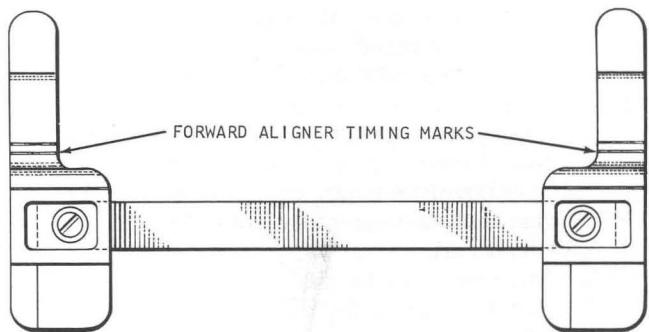

Figure 4-7. Gage 608183 Timing Mark
4. Continue turning the machine and check to see that a card finishes forward aligning to within $.005''$ of the "forward aligner timing marks" on the gage at 351° (Figure 4-7). This determines that the forward aligner is timed correctly.
1. Trip clutch at 300° and continue turning machine to 351° . Adjust forward aligners so that the trailing edge of the card is against each aligning surface of the forward aligners and leading edge of the card is within $.005''$ of the forward aligner timing marks on the gage (Figure 4-7) at 351° . To adjust the forward aligners: